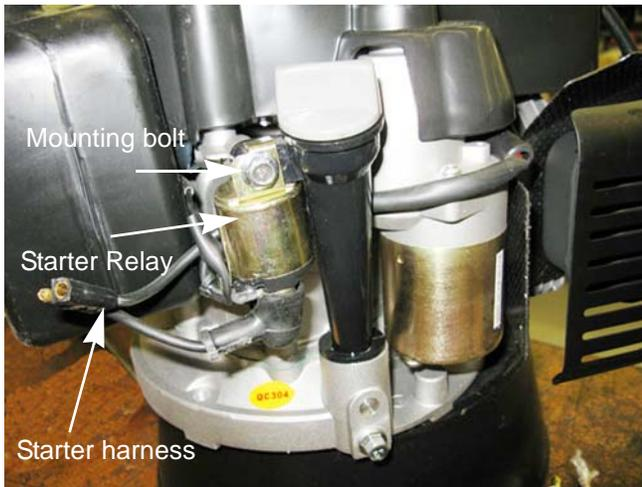

Figure 6.13
The electric starter on the MTD engine uses a relay that acts as a remote switch instead of a solenoid, which would also move the bendix gear out to engage the flywheel. The bendix gear on this starter will move to engage the flywheel by centrifugal force. The relay is mounted on the side of the engine, next to the oil dip stick. See Figure 6.13.
1. Unplug the starter harness. See Figure 6.13.